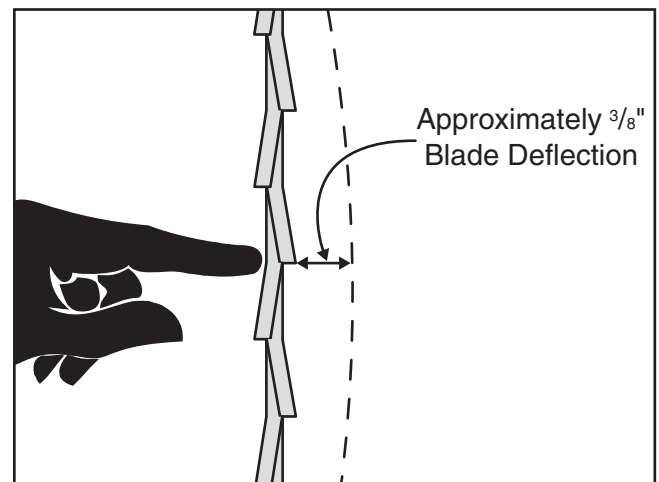

Figure 23. Blade deflection when correctly tensioned.
- Check the side-to-side deflection of the blade midway between the upper blade guide and the table. The proper amount of deflection should be approximately $\frac{3}{8}$ " when moderate pressure is applied (see **Figure 23**).